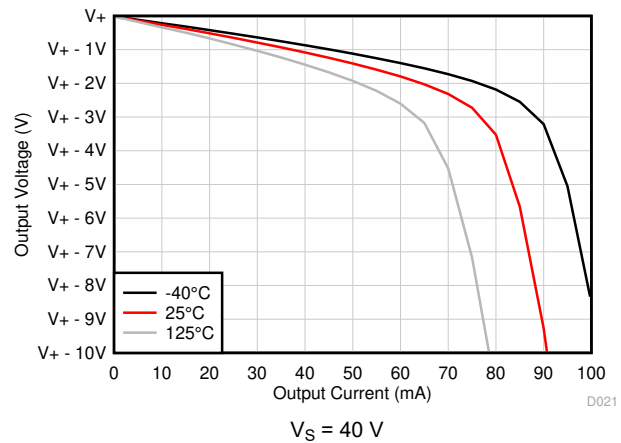

图 6-12. Output Voltage Swing vs Output Current (Sourcing)
- (1) Specified by characterization only.
- (2) At high supply voltage, placing the TLV936x-Q1 in a sudden short to mid-supply or ground will lead to rapid thermal shutdown. Output current greater than I_{SC} can be achieved if rapid thermal shutdown is avoided as per 图 6-12.